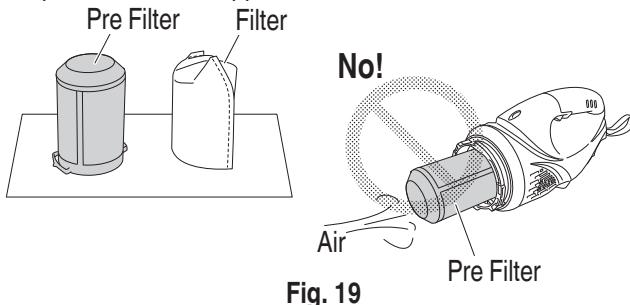

Fig. 19
- Do not use an air gun or similar tool to clean the pre filter, filter or the appliance itself. **(Fig. 19)**